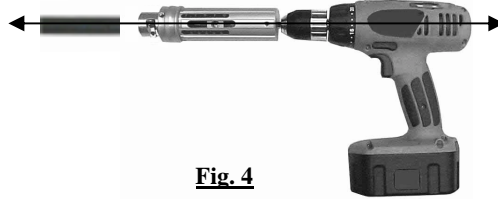

Fig. 4
Step 2. (Fig. 4) To ensure consistent and accurate removal of covering, the cable must be as straight as possible. Slide the tool onto the cable until the cable end is up against the stripping blade. Ensure that the tool is aligned properly with the cable axis.